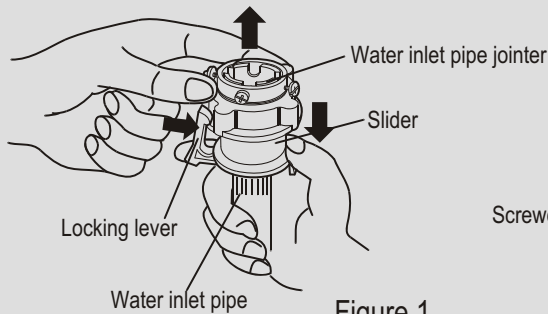

Figure 1
(Figure 1)
1. Press the lower end of the lock lever and push down the slider. Take off the water inlet hose jointer from the water inlet hose component. See to Figure 1.